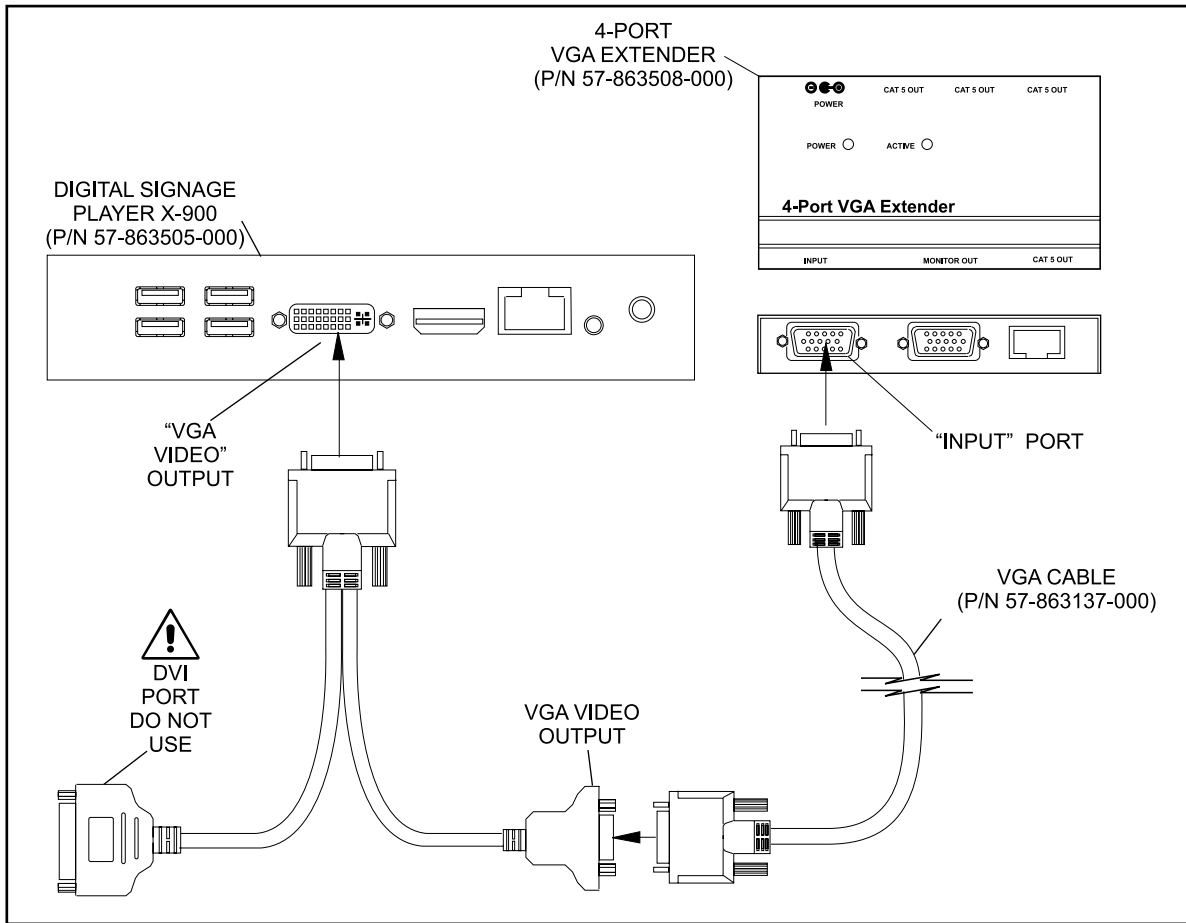

Figure 2. X-Series Digital Signage player
1. Connect the VGA cable (P/N 57-863137-000) to the VGA video output on the X Series Digital Signage player. Refer to *Figure 2*.